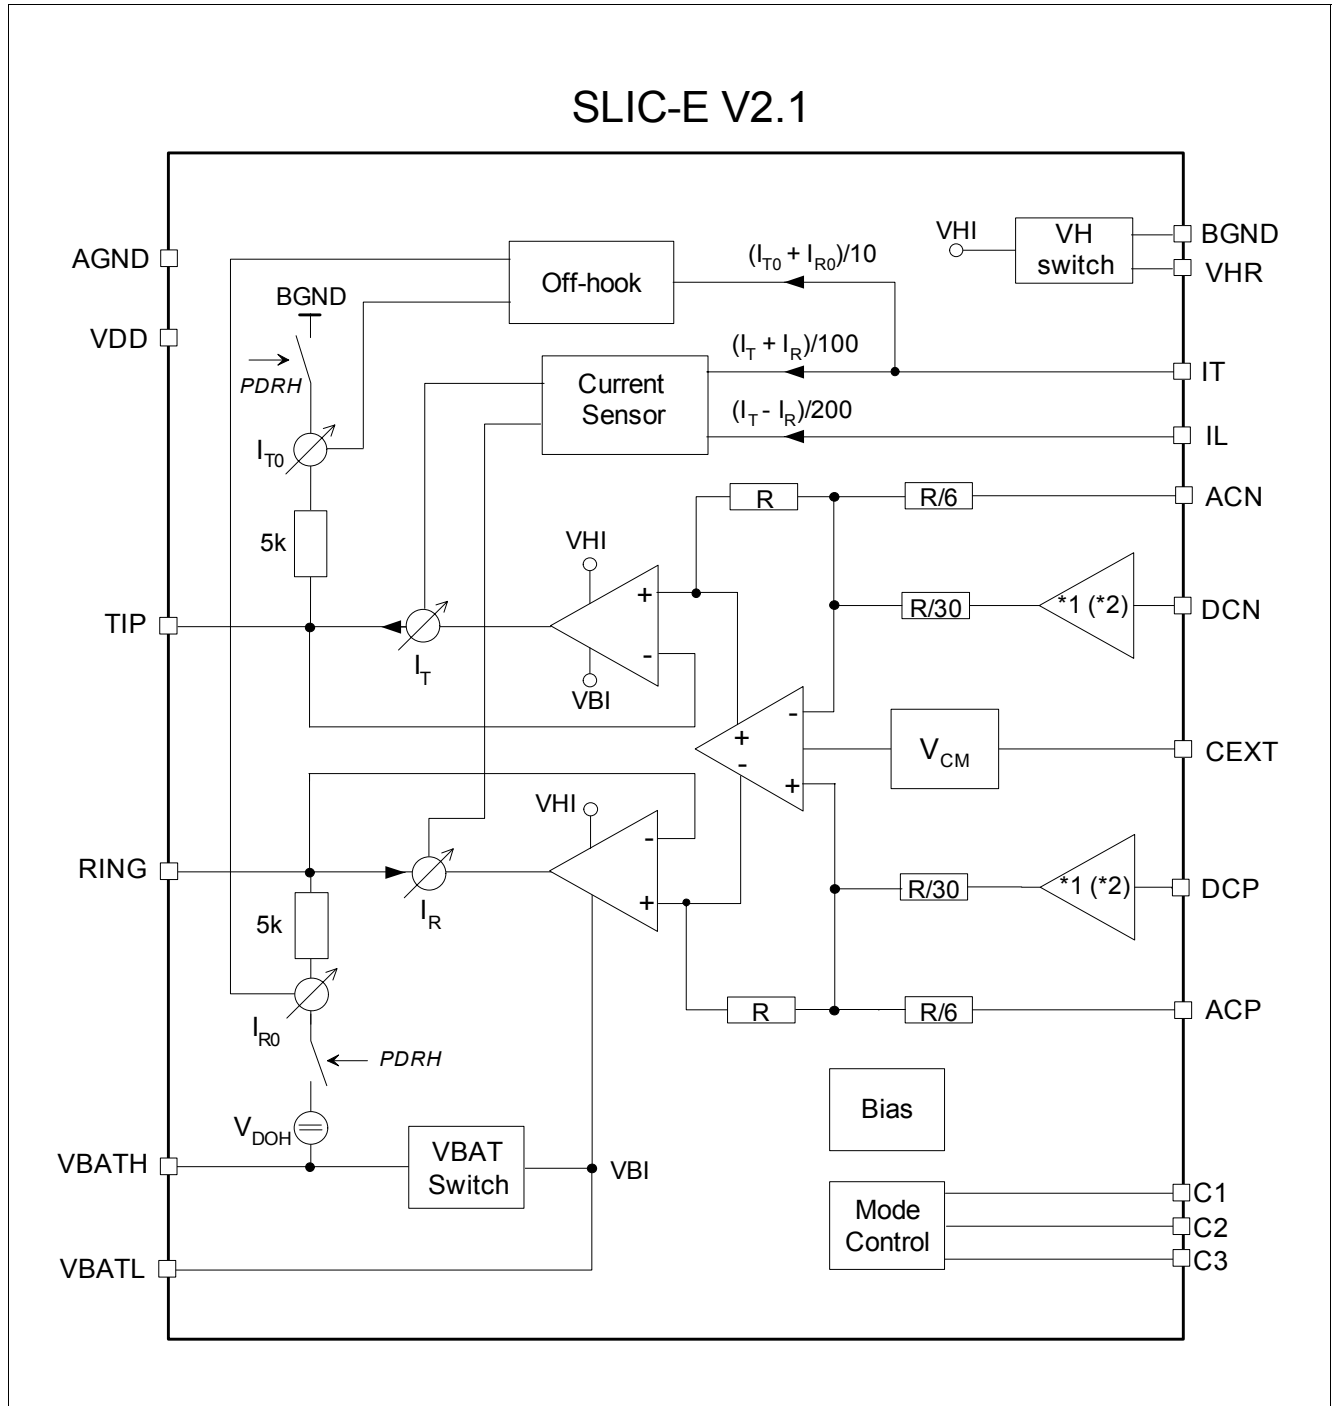

Figure 6 Block Diagram
A functional block diagram is shown in Figure 6.
Power consumption is reduced to a minimum by switching completely off all voice transmission functions. To allow off-hook detection, PDRH provides a connection of 5 kΩ each from TIP to BGND and RING to VBATH, respectively, while the output buffers show high impedance (see Figure 6). The current through these resistors is sensed, scaled by 1/5 and transferred to the IT pin for off-hook supervision.
3) Due to the changed battery switch concept (see **Figure 6**), the VBATL series diode must not be shared between different channels; one diode per channel is mandatory (also for applications with TSLIC).